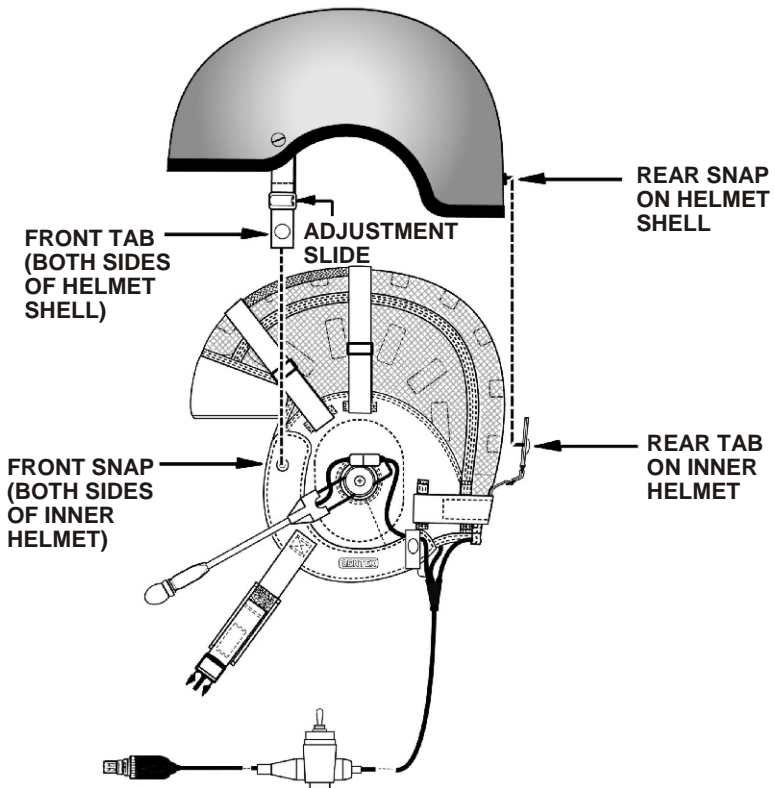

Figure 7. Helmet Shell
Attachment of Helmet Shell (Figure 7)
2. Referring to **Figure 7**, attach the helmet shell to the inner helmet as follows: